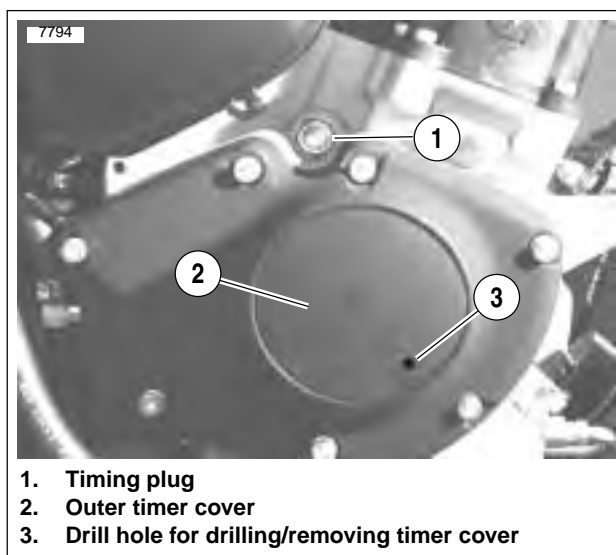

Figure 1-42. Timer Cover and Inspection Hole
7. See Figure 1-42. Drill hole in location shown and remove outer timer cover, if not removed.
10. See Figure 1-42. Tighten module plate screws to 15-30 in-lbs (1.7-3.4 Nm)